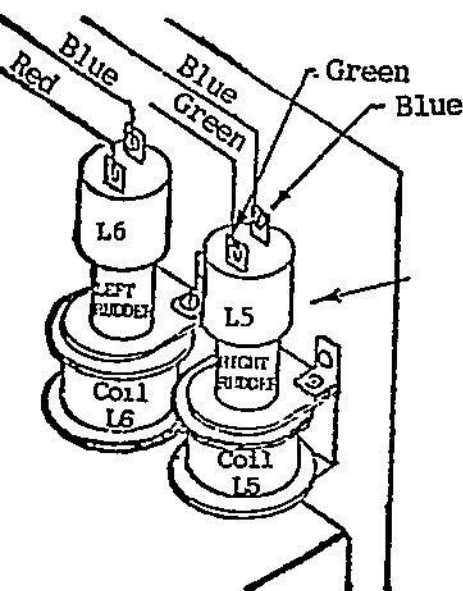

FIG. 1
STEP 3 - Locate the two mercury contactors, L5 & L6, mounted side by side on the inside of the front plate. (FIG. 1)